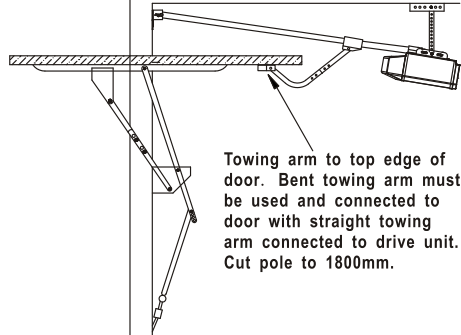
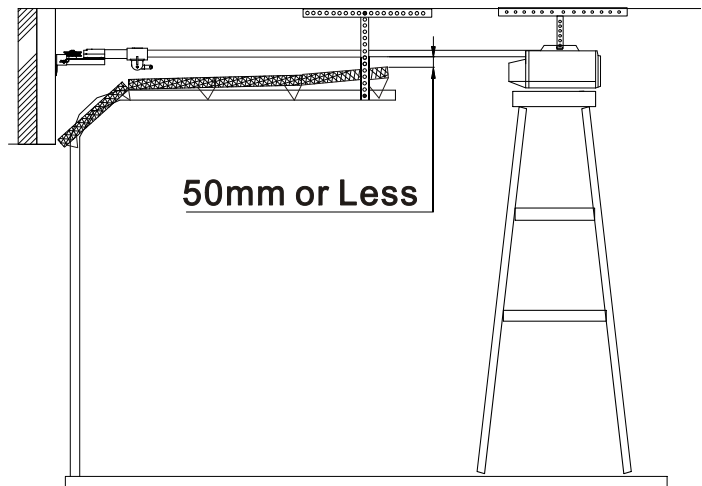

Fig 1B
Fig 7
- Raise the Power Head off the floor and rest it on a support high enough that the Drive Rail Assembly runs parallel to the ground. (Fig.7 depicts typical sectional type garage door installation for tip up door refer Fig.1B)
- Align the Drive Pole Assembly with the centerline of the garage door and securely fasten the Power Head to a structural member of the ceiling or roof using 2 lengths of vertically hung steel angle – normally 20mm x 20mm x 1mm. (Fig.7)
- Once mounted the Power Head and Drive Pole Assembly should sit parallel to the floor along both planes. (For Sectional and Track-Type Tilt Doors only. For Jamb-Type Tilt Door refer Fig 1B)
- a. **With the garage door in the fully open position, the underside of the Drive Pole Assembly should be no more than 50mm above the highest arcing point of the garage door for its entire length. (Fig.7)**